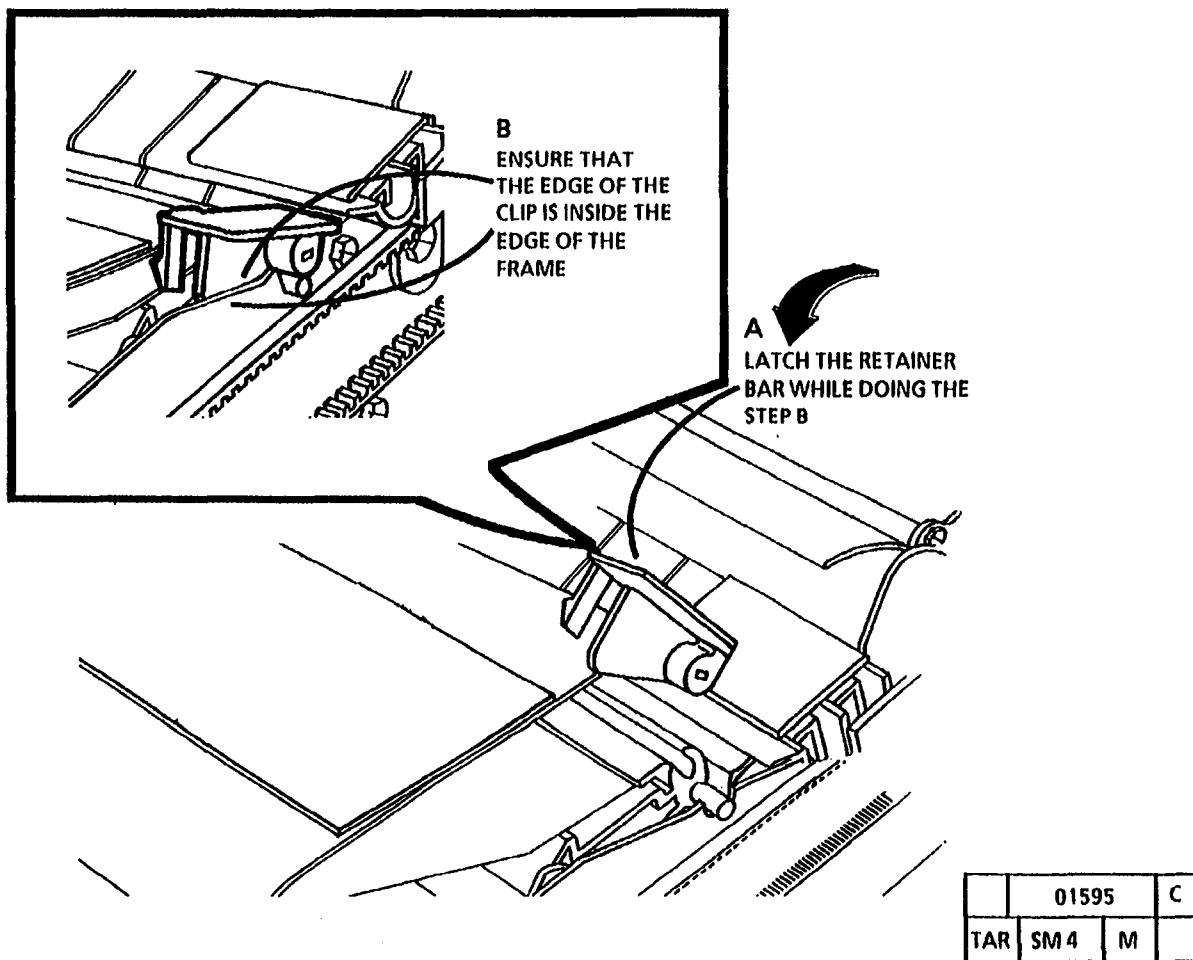

Figure 2. Install the Fabric Guide
1. (Figure 2): Install the Fabric Guide.